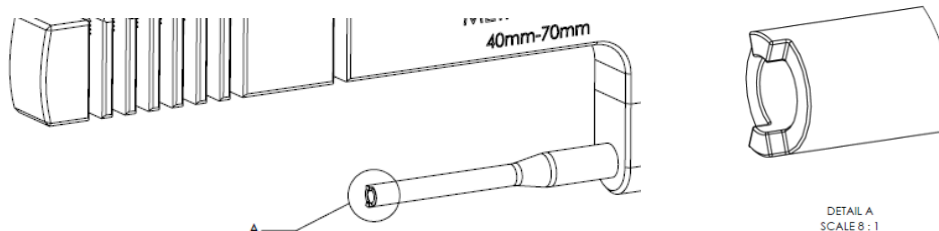

Figure 3: Drill Guide mating feature
- a) Drill Guide mating feature: Key tabs must be free from wear and not deformed. Cannula must be clear and free of debris. See Figure 3.